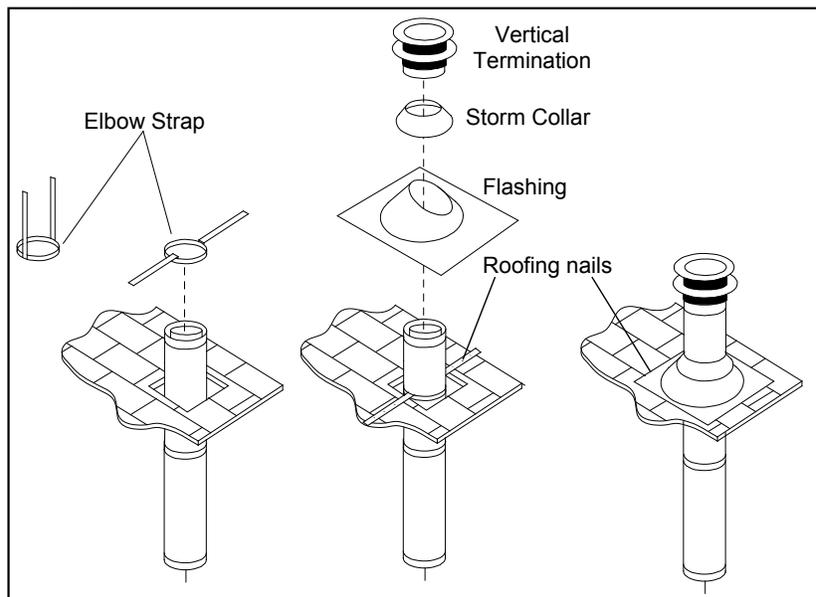

Figure 12: Vertical Vent Termination Installation.
STEP 6. Once the pipe sections have been joined, and run up through the hole in the roof, slip an elbow strap over the exposed sections, bend the support straps outwards, and push the elbow strap down to the roof level, as shown in Figure 12. Tighten the clamp around the pipe section. Use a level to make sure the pipe is truly vertical. With roofing nails, secure the support straps to the roof. Seal the nails holes heads with non-hardening mastic. Trim the excess length of the support straps that extend out beyond the edge of the flashing.
STEP 7. Slip the flashing over the pipe section protruding through the roof. Secure the base of the flashing to the roof with roofing nails. Use a non-hardening sealant between the uphill edge of the flashing and the roof. Insure the roofing material overlaps the top edge of the flashing as shown in Figure 12. Verify that you have at least the minimum clearance to combustibles at the roofline.
STEP 9. Slip the storm collar over the pipe, and push it down to the top of the roof flashing as shown in Figure 12. Use the non-hardening sealant around the joint between the pipe and the storm collar.